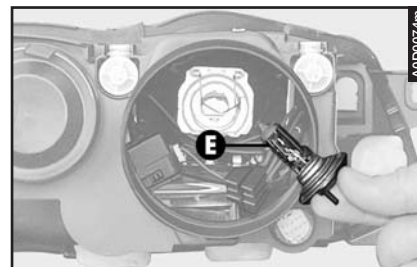

fig. 41
- Remove the bulb (**E- fig. 41**).